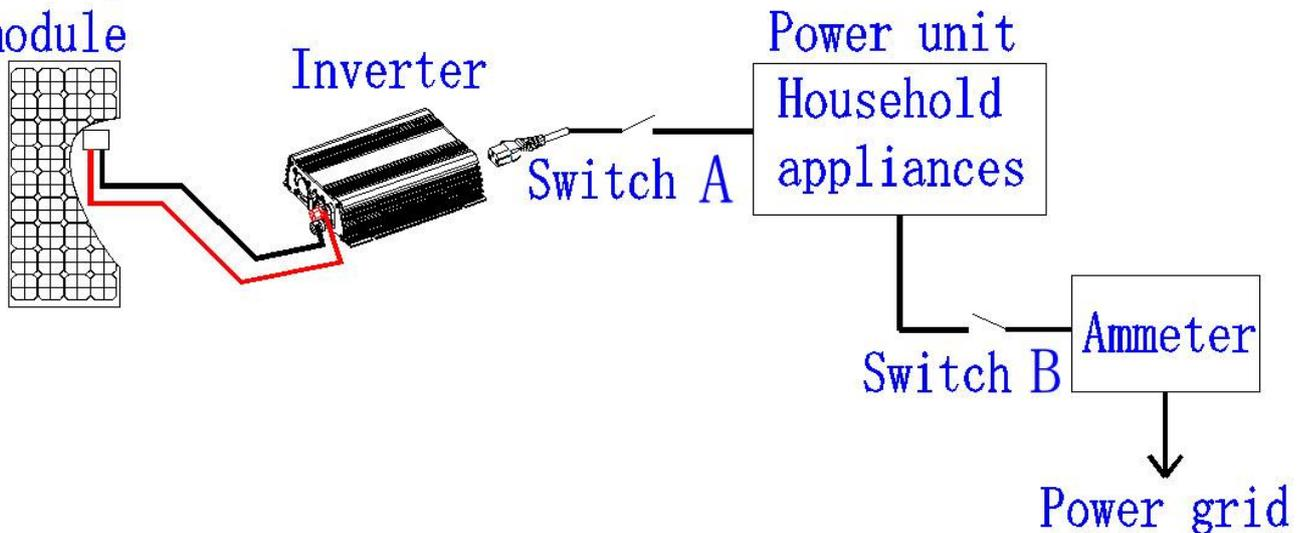

Figure 1
- F) There must be a circuit breaker between solar power generation and power grid(show like the "switch A" in figure 1). And there will be no load before the circuit breaker.
- H) If you need to disconnect the mains switch when the solar power generation is in operation, you must disconnect the control switch first(show like the "switch A" in figure 1).